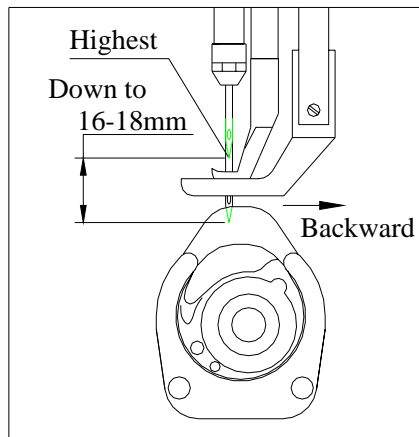
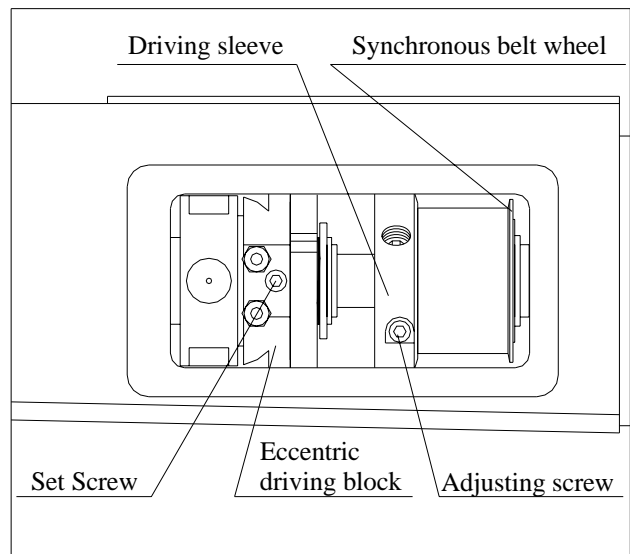

Fig.9
Fig.12
(1) When the sewing needle descends from the highest point down to 16-18 mm, the needle rack together with the needle bar and the inner clamp begins to move backward (Fig.9). The method of adjustment: Loosen the two set screws on the eccentric driving block (Fig.12). Turn the hand wheel towards the red arrow to meet the requirements mentioned above. Then tighten the screws.
(3) If the two scales are not in alignment, the two adjusting screws in the driving sleeve on the end of the main shaft need adjusting. (See Fig.12)